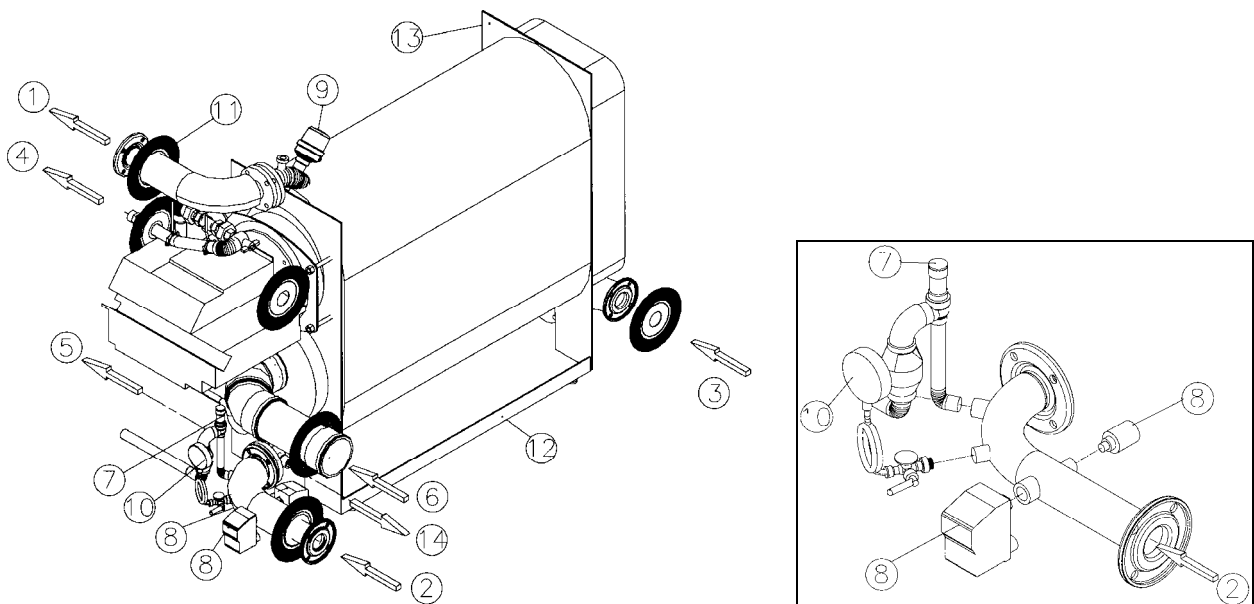

Fig. 4
4.12 SINGLE GROUP PIPING INSTALLATION KIT (Fig. 4)